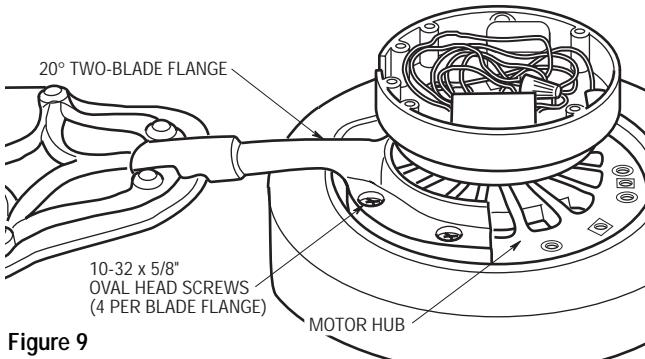

Figure 9
14. **TWO-BLADE VERSION.** Attach one blade assembly to the motor hub using four 10-32 x 5/8" oval head screws (supplied) (Figure 9). Install the other blade assembly in the same manner. Gently snug all flange screws to the motor hub. Make sure the ends of the flanges are engaged, then securely tighten all flange screws, working in a clockwise sequence.